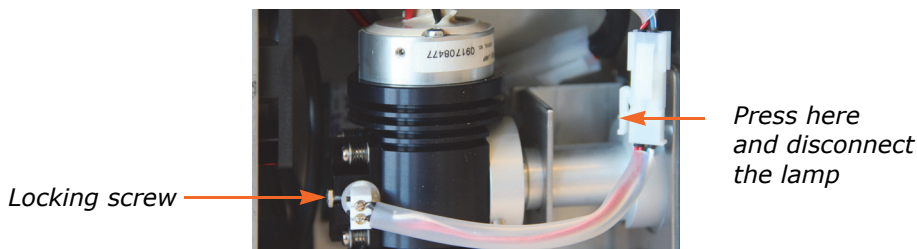

Figure 5-16. Disconnect the Tungsten Lamp
- b. Pull out the tungsten lamp and disconnect it from the power cable; see Figure 5-16.